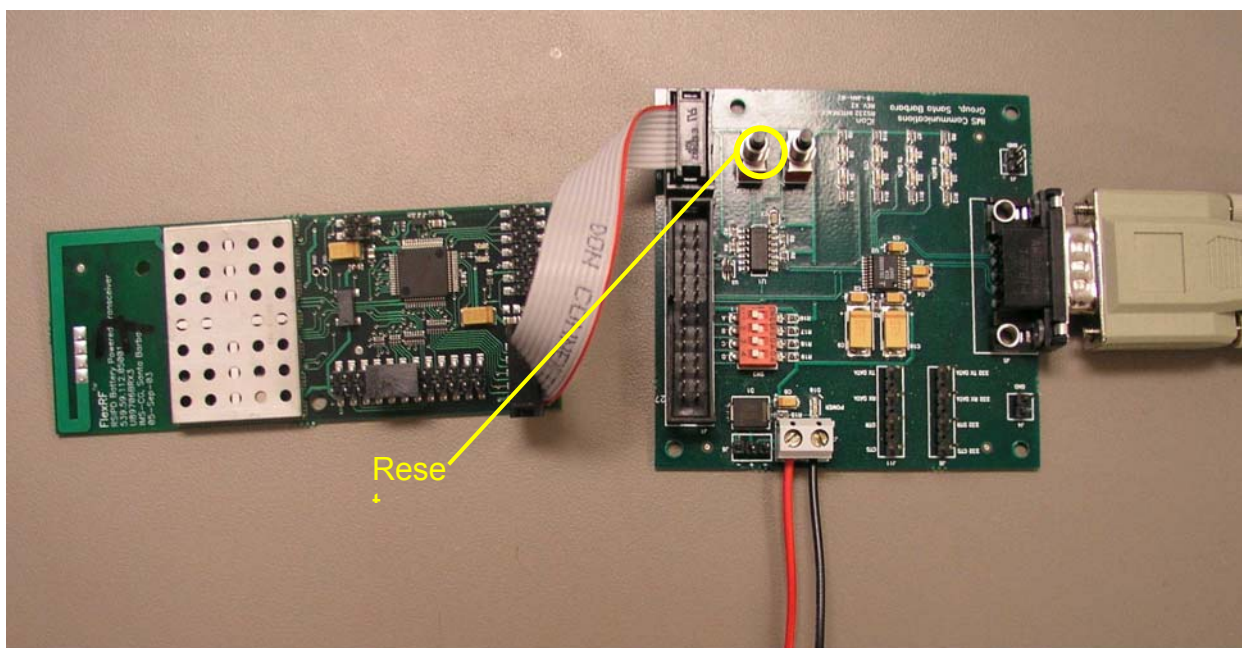

fig. 1 – Serial comm. and power connections
1. Connect the radio to the RS232 interface/control board via the 10 pin connectors with a ribbon cable as shown in the photograph *fig 1*. Make sure that pin 1 on the interface board is connected to pin 1 on the radio (both are near the edge of the board). The interface board provides voltage level shifting between the PC and the radio board.
3. Provide 3.3V DC (limit to 80mA per radio) to the interface board at the connections shown in the photograph *fig 1*. Current draw at 3.3V in on power-up should be about 30mA per radio.